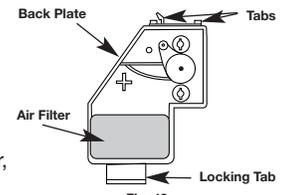

Fig. 43
- Replace the filter (Fig. 43).
- Reinstall the air filter cover. Position the slots on the top of the air filter cover onto the tabs at the top of the back plate (Fig. 43).